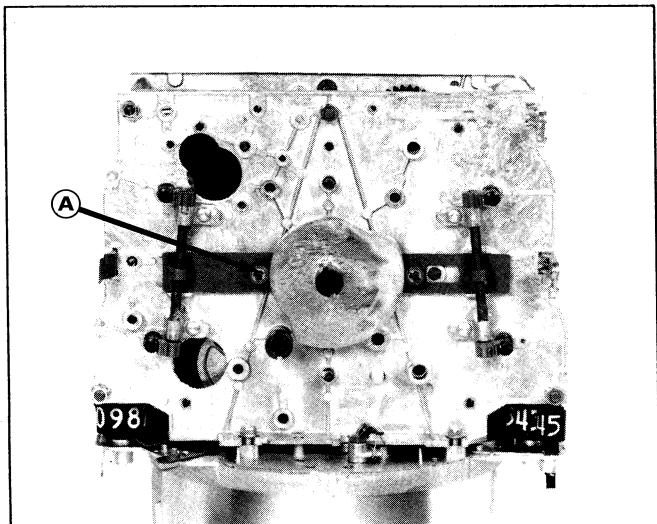

Figure 46.
1. Banks of Wheels Fail to Rest (Figure 46).